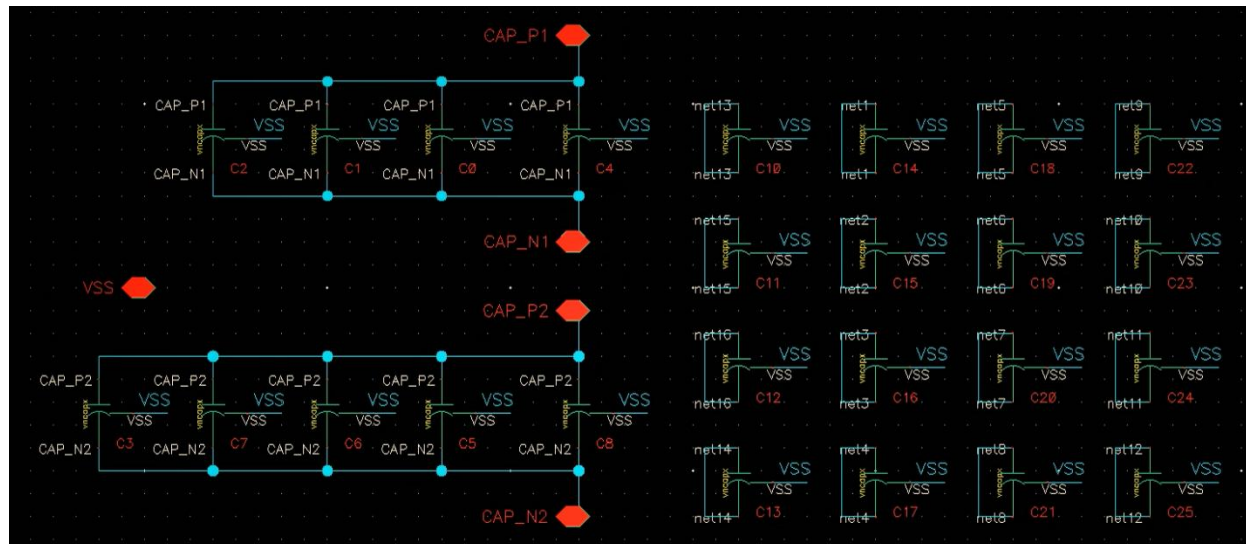
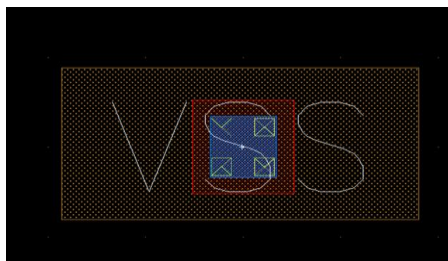
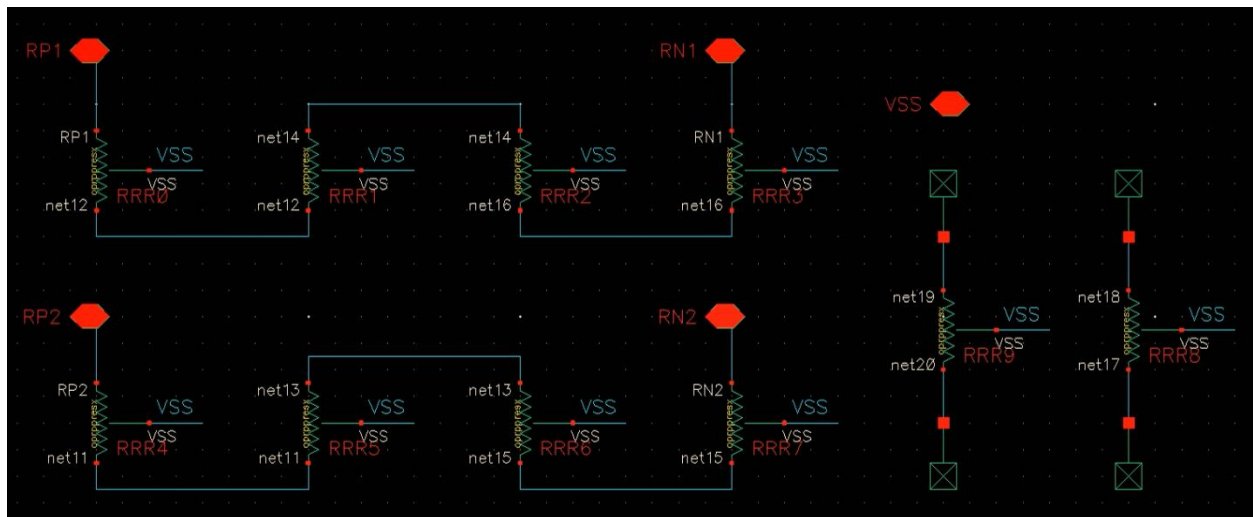

Figure 3-10: Schematic View of the Capacitor Array
Figure 3-11: Voltage Reference for the Layout
Figure 3-14: Schematic View of the Resistor Array
In this lab, you will also be asked to create an interdigitized capacitor array, complete with dummy capacitors. Figure 3-10 shows the schematic view of one possible configuration of the capacitor array that needs to be laid out. The capacitors to be used are called **vncapx** and they are found in the **cmhv7sf** library. Once the capacitor array has been laid out, a via from RX_M1 surrounded by a layer of BP is required. **Remember that the BP layer is needed to create a p+ region that provides good ohmic contact between the p- substrate material and the metal layers used for routing. Be sure to label this via "VSS" (Figure 3-11).**
In this lab, you will create an interdigitized resistor pair as well. Figure 3-14 shows a schematic of one possible configuration of the resistor pair to be laid out. The resistors to be used are called **oprppresx** and they are found in the **cmhv7sf** library. The green boxes with X's on them are an element called **noConn** found in the **basic** library. The **noConn** element is used for the dummy elements since the pins are left floating, but individual **noConn** elements are not connected to each other. The **noConn** element suppresses a warning from the schematic editor for the floating nets. Also, for the layout, a via from RX_M1 is needed with the label "VSS" similarly to what was needed for the capacitors. Do not forget to surround the via with a layer of BP (refer back to Figure 3-11).
3. Draw a common-centroid layout for a MOM capacitor array, like what is shown in Figure 3-10. The capacitors have a ratio of $C_1:C_2=1:1.4$. The capacitor array should consist of eight unit capacitors (i.e. $I_1 = I_2 = 4$) and one non-unit capacitor. Determine the form of the common-centroid layout and interconnect the capacitors. Use the techniques described in the lab manual to give good matching. Include dummy capacitors in the layout drawing (the number of dummies you include may be different than the number of dummy capacitors shown in Figure 3-10). Also, give the size of the non-unit capacitor. The unit capacitor is 10.56 μ m x 10.56 μ m ($W \times L$).
4. Draw a layout for two matched polysilicon (oprppresx) resistors, like what is shown in Figure 3-14, to realize a total resistance of 15 k Ω for each resistor. Remember to account for contact resistance. The *total component area* of both resistors should be between 30 μ m² and 80 μ m² (the actual area occupied by the layout will be greater than this due to routing and DRC constraints like minimum spacings). Determine the length and width of the resistor diffusion. Use an interdigitized layout with four resistance segments for each resistor. Use good layout techniques.